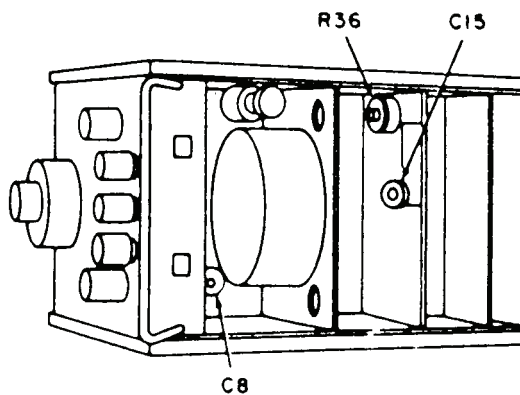

Figure 4. Test instrument bottom view.
- (1) Set **RANGE** switch to **X10K**, **FREQ** dial to **5**, and **VERNIER** control to midrange.
- (2) Adjust C8 (fig. 4) for a 50 kHz indication on frequency counter (R).
- (3) Set **FREQ** dial to **56** and adjust C15 (fig. 4) for a 560 kHz indication on frequency counter.
On models that do not include **56** on **FREQ** dial, set **FREQ** dial to **50** and adjust C15 (fig. 4) for a 500 kHz indication on frequency counter (R).
- (4) Set **RANGE** switch to **X1** and **FREQ** dial to **5**.
- (5) Repeat a (2) through (5) above.
- (1) Set **RANGE** switch to **X100** and **FREQ** dial to **10**.
- (2) Adjust R36 (fig. 4) for minimum distortion as indicated in audio analyzer (R).